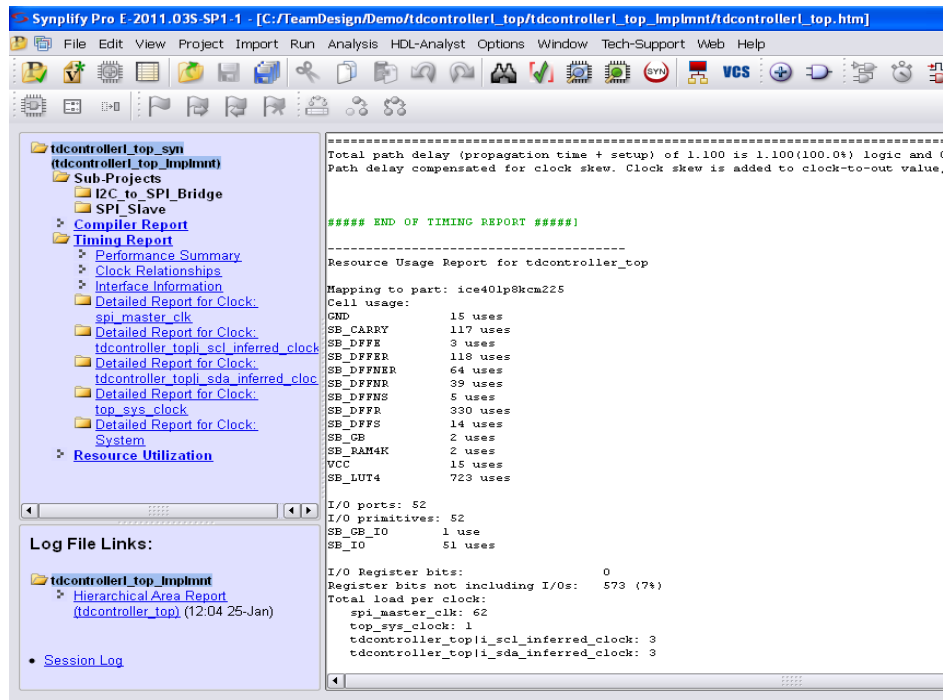

Figure 9-12: Resource Utilization Report for Top Level Project
- Click on “Run” to synthesize the top level design. Click on the “View Log” menu item and select the “Resource Utilization” link. The resource usage report shows that all the design units are elaborated and synthesized into primitive cells, as shown in Figure 9-12.